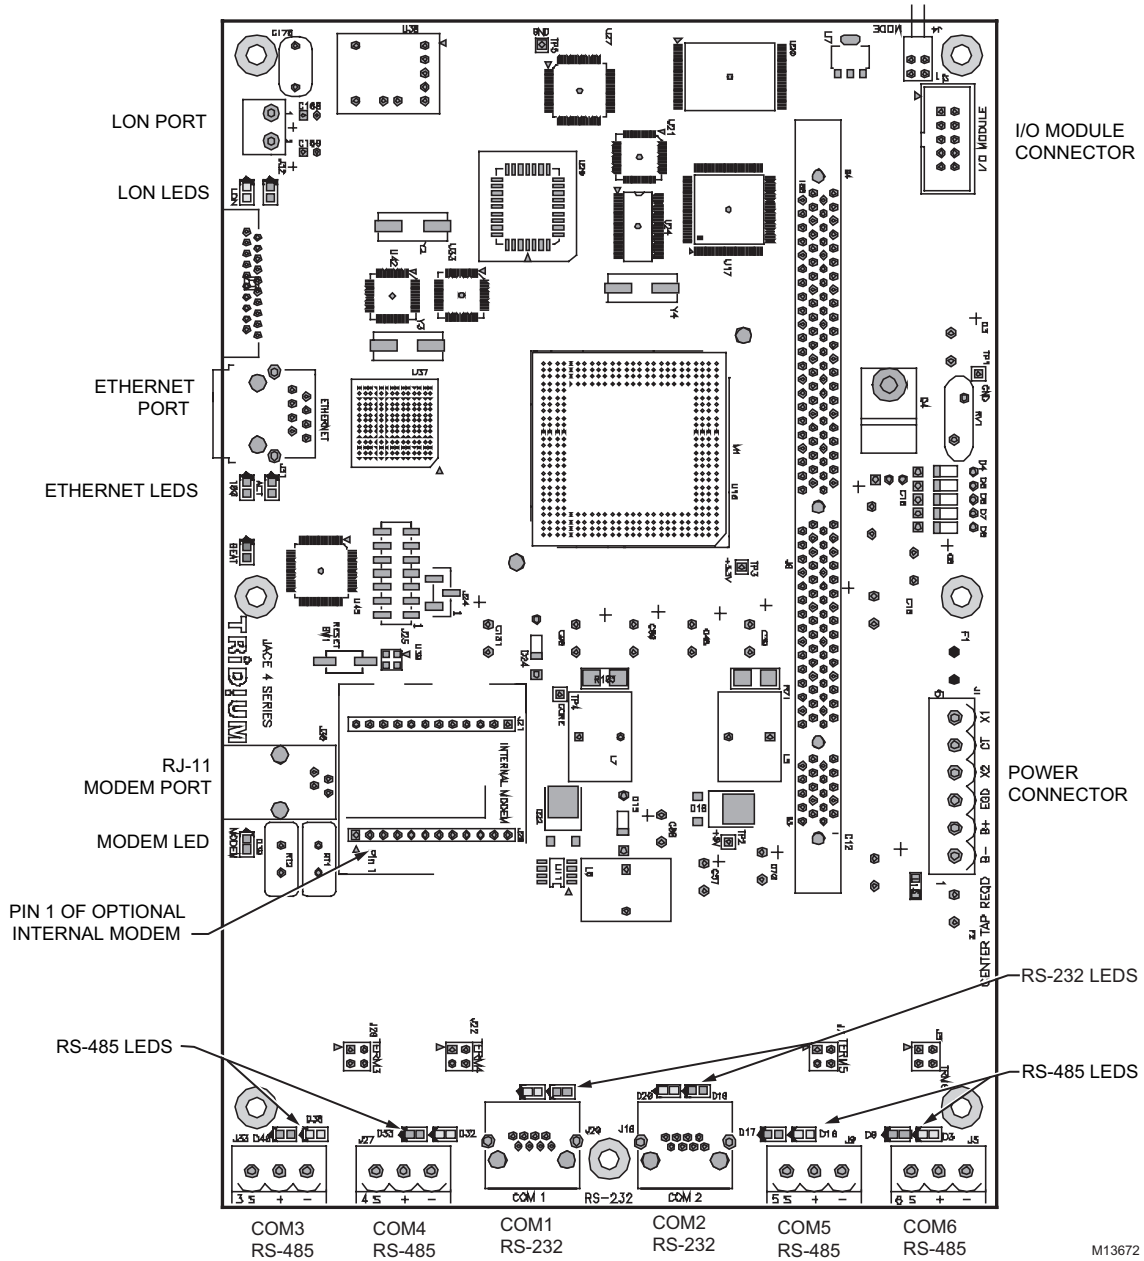

Fig. 2. Board layout details.
There are six serial ports on the WEB-545, located at the bottom of the board (see Figure 2 on page 10).
Refer to Figure 2 on page 10 for the exact locations of status LEDs on the WEB-545 controller.
- a. Locate the on-board modem (see Figure 2) and note the following:
- Orientation of the sockets for the pins on the modem. The sockets are two parallel lines. The socket for pin 1 (noted on Figure 2) is the left-most pin on the bottom line.
- b. Locate the socket for pin 1 on the board (see Figure 2).